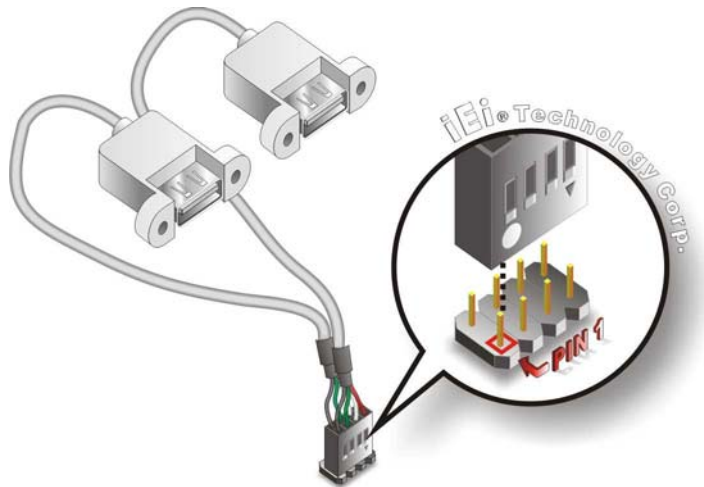

Figure 4-27: Dual USB Cable Connection
Step 3: Insert the cable connectors. Once the cable connectors are properly aligned with the USB connectors on the WAFER-945GSE3, connect the cable connectors to the on-board connectors. See Figure 4-27.